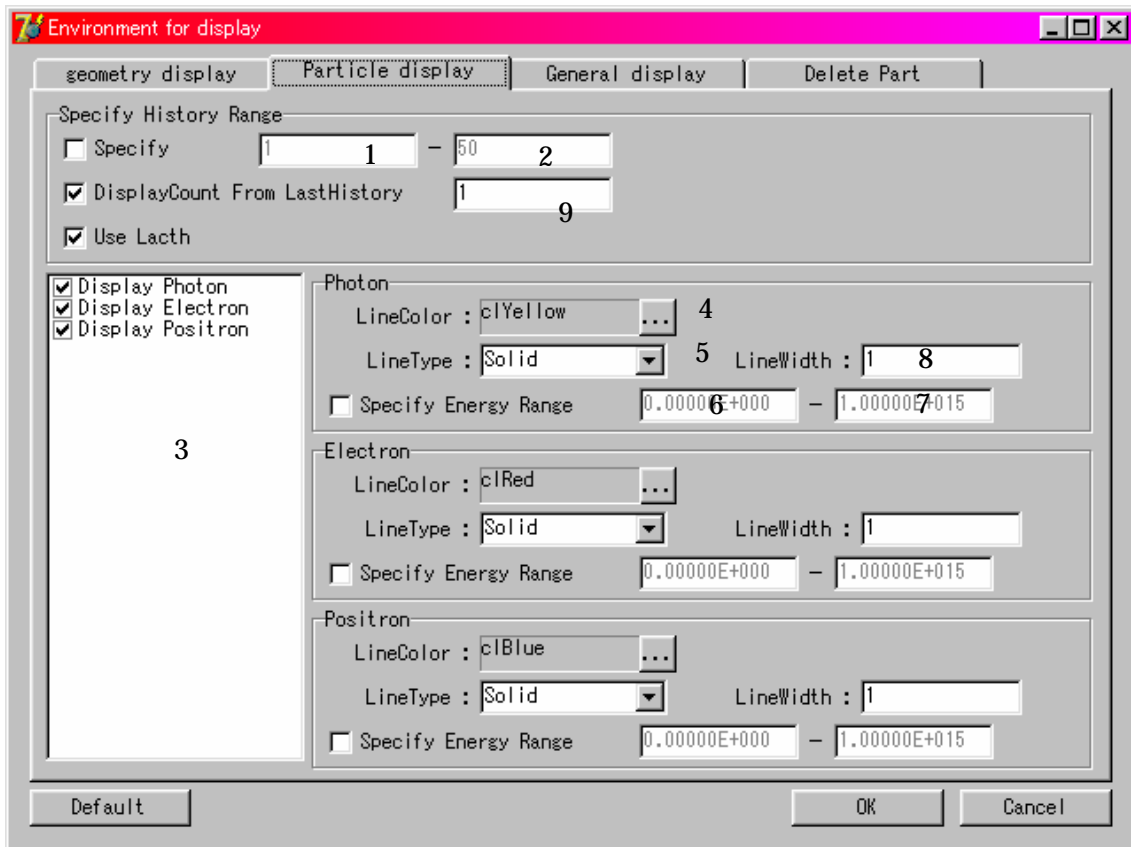

Fig 7.6 Window to specify a particle display
Select **[Environment]-[Environment for Display]** in the main menu to make a change. Then, a window, as shown in Fig 7.6, appears. Select **[Particle display]** among the tabs at the upper part of the window.
**[Specify]** is indicated in the **[Specify History Range]** frame in Fig 7.6.
**[Display Count from Last History]** is indicated in the **[Specify History Range]** frame in Fig.7.6.
Displaying each kind of particle is specified by checking each item in the 3 list box in Fig.7.6.
The line color for a particle trajectory can be changed. Click button 4 in Fig.7.6 to change the line color. Then, a dialog box to select the color appears. Select a color. The color ID code in the box is changed to the selected one when the color is selected without any trouble. Also, the line color of electrons and positrons can be changed by clicking the button in each box.
The line width for the standard weight particle is specified. Default=1. Because the default line width is 1 pixel, the line of width N is indicated as N pixel line. Input a positive integer to textbox 8 in Fig. 7.6.
By checking [**Specify Energy Range**] in a frame of each particle in Fig.7.6, the energy-range specification is enabled. In this case, a particle is displayed only if its energy is within a specified range. If this button is not checked, the energy range is not specified.
Type in the lower and upper energy in text boxes 6 and 7 in Fig 7.6, respectively, to specify the energy range. If either of these boxes is left blank, 0 and  $1e15$  are automatically assigned for the lower and upper energy, respectively. Unit is [MeV].
By checking [**Use Latch**] in [**Specify History Range**] frame in Fig.7.6, the LATCH function is enabled. In this case, a history with a negative value of the latch flag is not displayed. If this button is not checked, the LATCH function is cancelled.